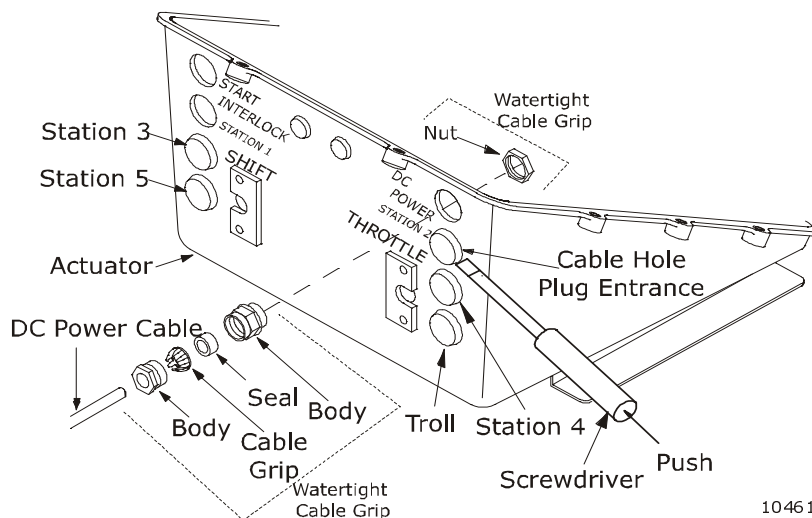

Figure 10: Plug Removal and Cable Grip Installation
- E) Remove only the Hole Plugs needed for remote station cable entry as shown in Figure 10:.
- F) Install the watertight cable grips into the open entry holes of the Actuator. Refer to Figure 10: for cable grip installation.
- C) Install a watertight cable grip into the DC POWER entry hole. Refer to Figure 10: for cable grip installation.
- A) Install a watertight cable grip into the START INTERLOCK entry hole. Refer to Figure 10: for cable grip installation.